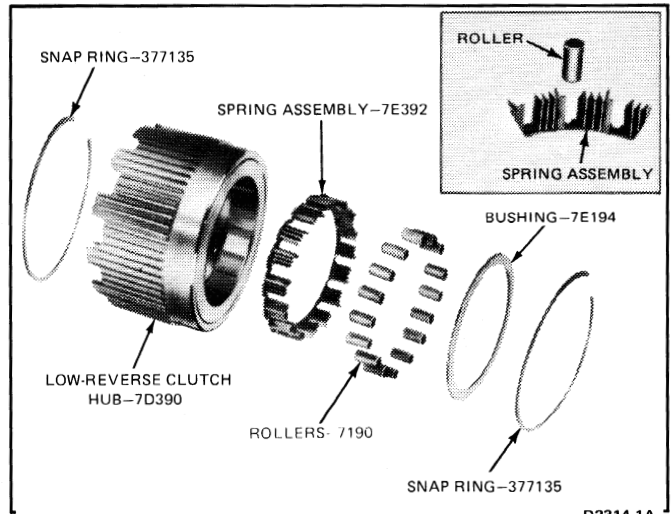

FIG. 57 One-Way Clutch Disassembled
1. Remove the snap ring and bushing from the rear of the low-reverse clutch hub (Fig. 57).
4. Install a roller into each of the spring assembly compartments (Fig. 57).
6. Install the remaining snap ring at the rear of the low-reverse clutch hub to secure the assembly (Fig. 57).